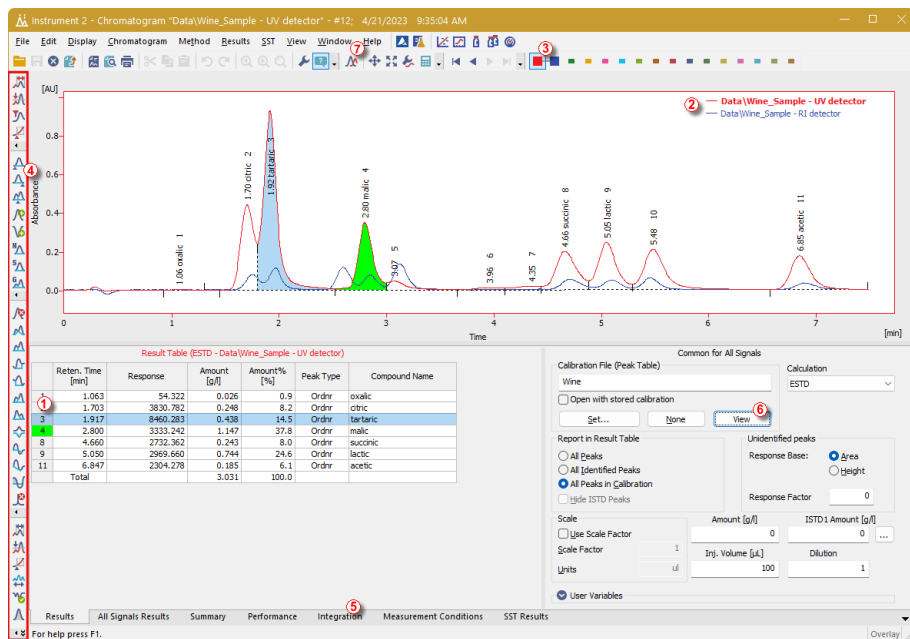

Fig. 14: The Chromatogram window
- Multiple chromatograms may be displayed at once. Switch to the *Overlay* mode by pressing the *Overlay*  button found on the *Overlay* toolbar ( ⑦ in Fig. 14 on pg. 23.) and then use the *File - Open Chromatogram...* command or the *Open Chromatogram*  icon. It is now possible to select several files to be opened in the *Open Chromatogram* dialog. You can click the *Overlay*  button again to close all the chromatograms except the currently selected one.